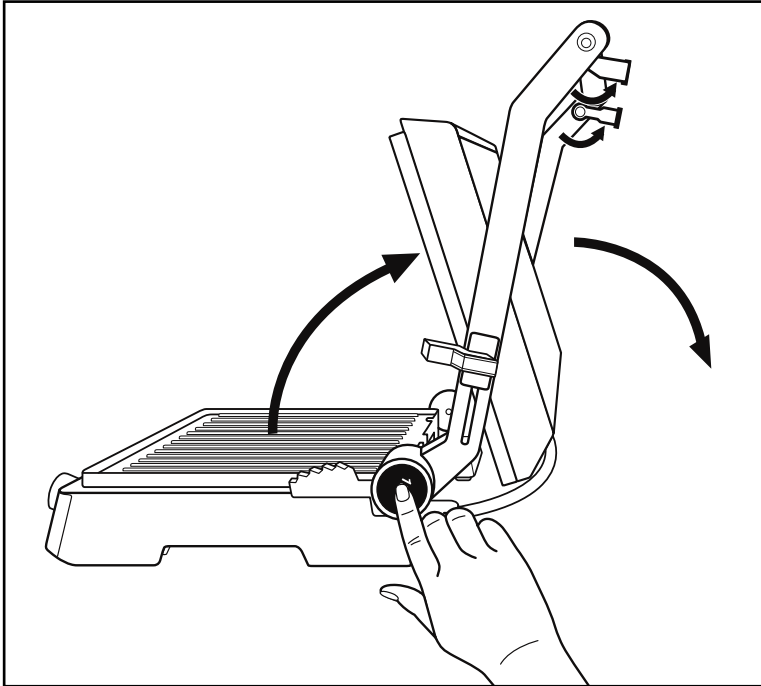

Fig. 1
- 1) Fold out both support feet ❶ (Fig. 1).
- 2) Press the unlocking button ❸ 180° ❹ (Fig. 1) and open the appliance lid until both hotplates ❶ can be used as a table grill.